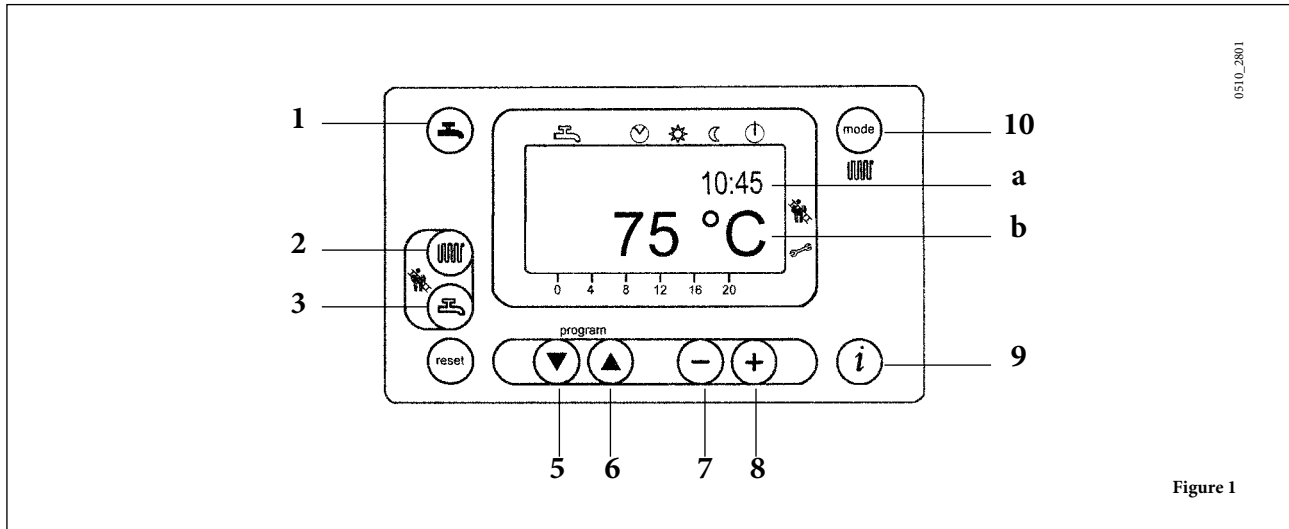

Figure 1
- Press [Water Temp] (2- figure 1) to set the heating water temperature;
- press one of the two buttons [Mode] [1 or 10] (1 or 10 - figure 1) to save and return to the main menu.
NOTE – With the external probe connected, press [Water Temp] (2 – figure 1) to shift the heating curve. Press $-$ $+$ to decrease or increase the ambient temperature of the room to heat.
- Press [DHW Temp] (3- figure 1) to set the maximum DHW water temperature;